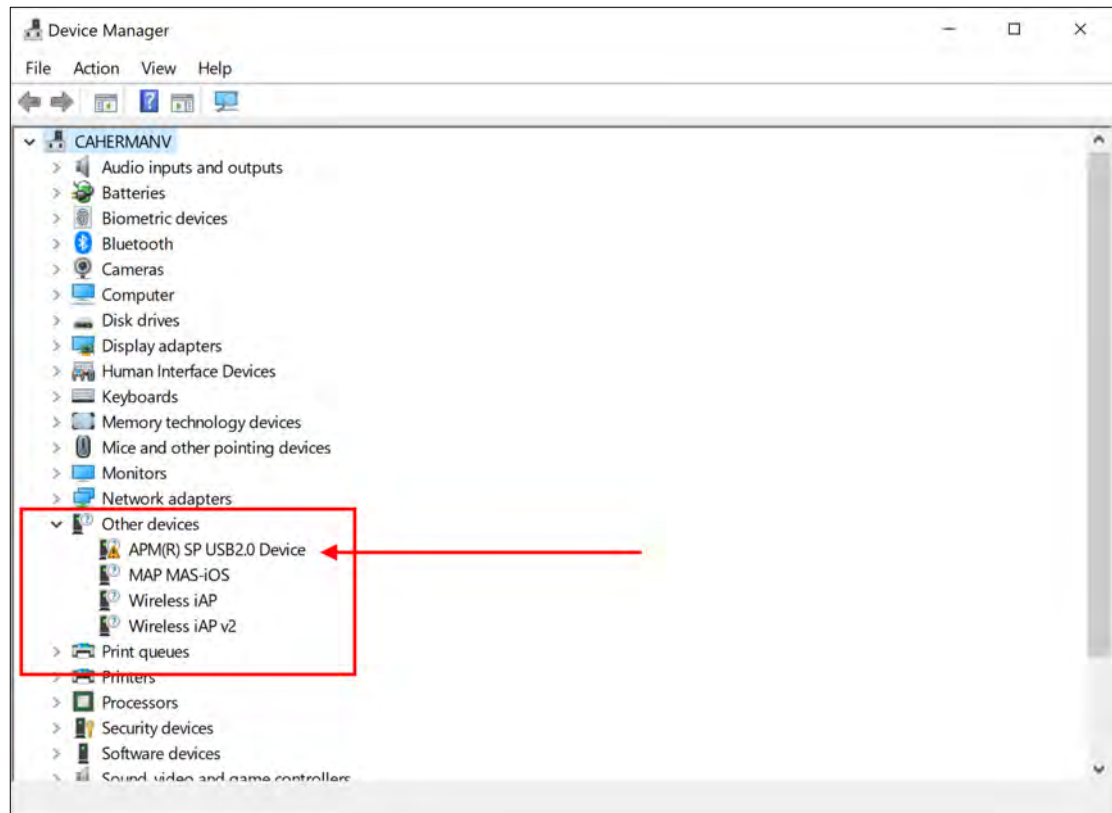

Figure 9-1: Device Driver, Other Devices, USB Entry
Open the device manager as shown below. Locate the “APM (R) SP USB2.0 Device” under the “Other Devices” category. See Figure 9-1 below.